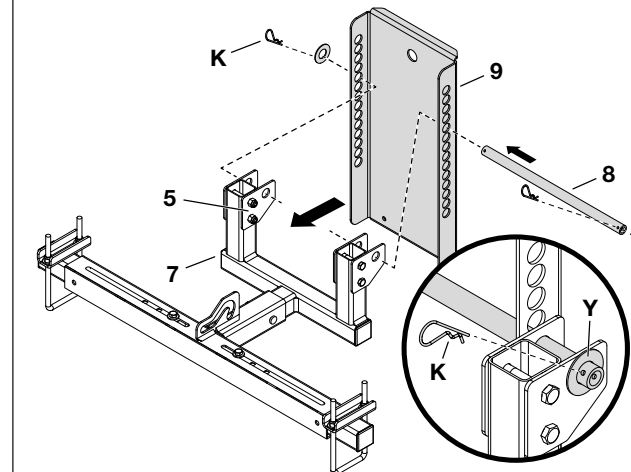

Figure 5
STEP 5: (SEE FIGURE 5)
- Insert the pivot shaft (8) through the two sets of pivot brackets (5) of the blade mount assembly (7) and the holes in the bulkhead (9).
- Secure each end of the pivot shaft (8) using a washer (Y) and a hair cotter pin (K).